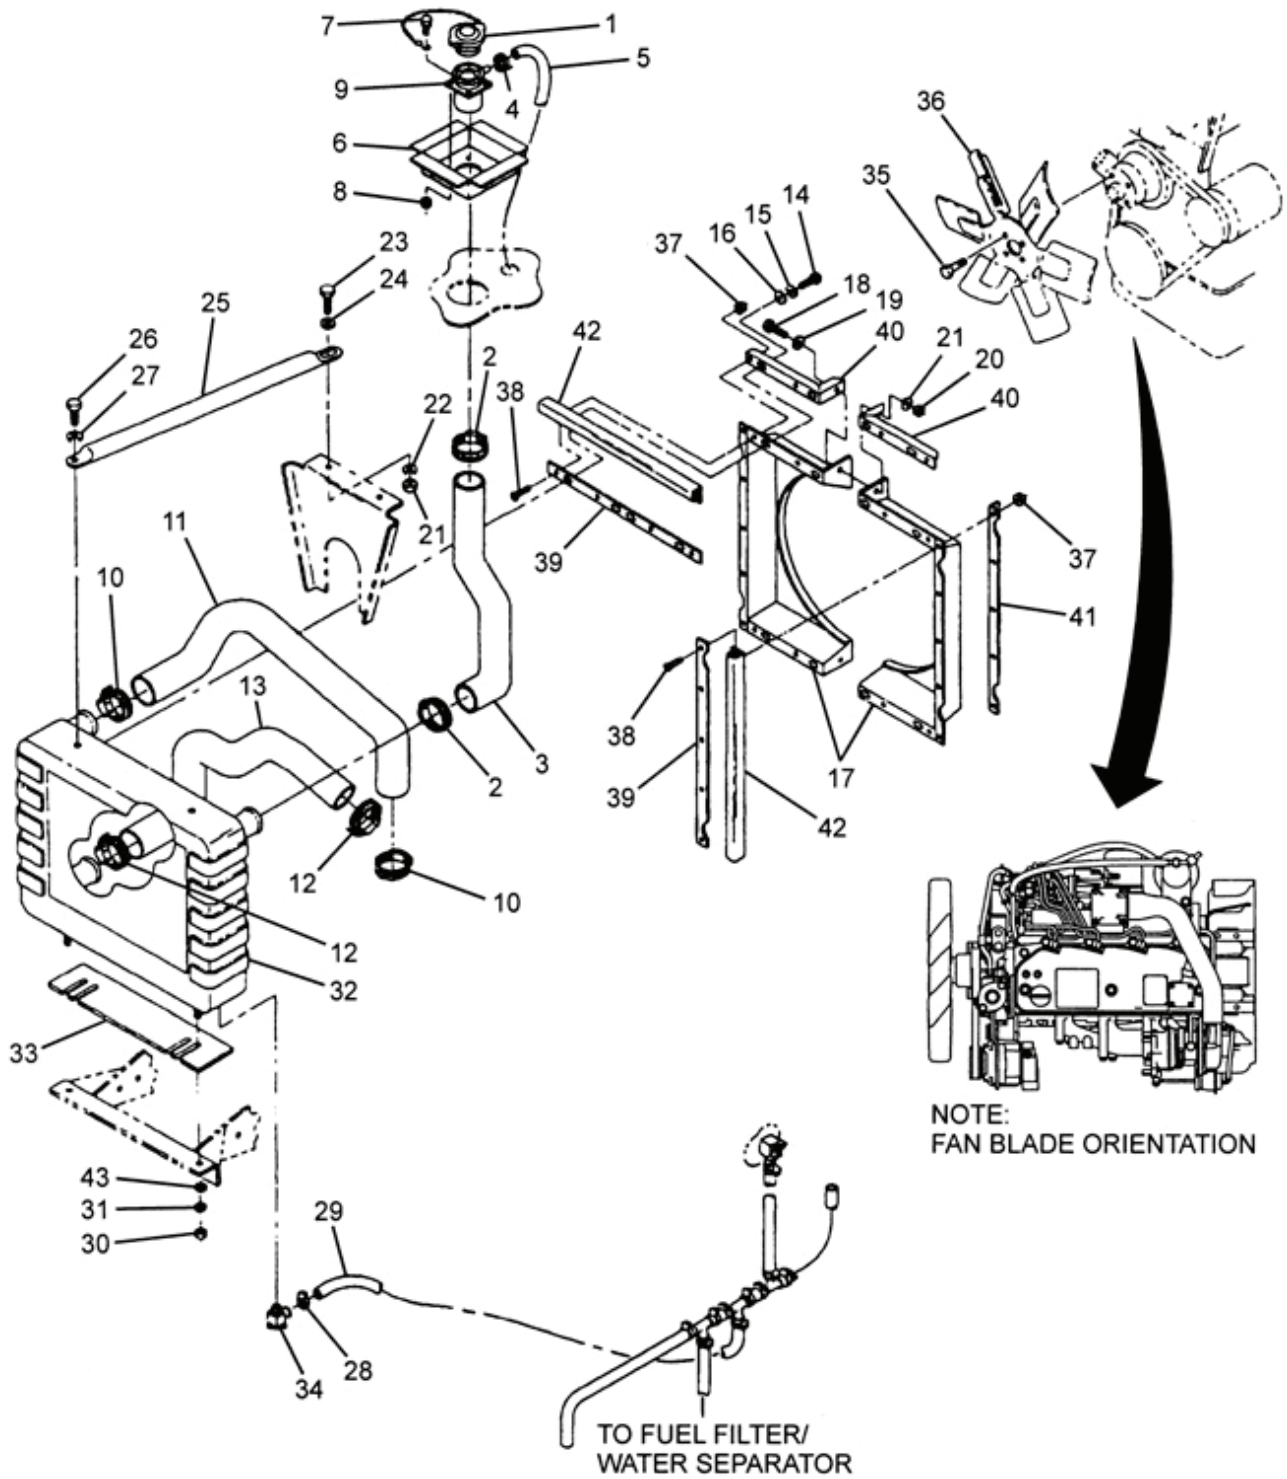
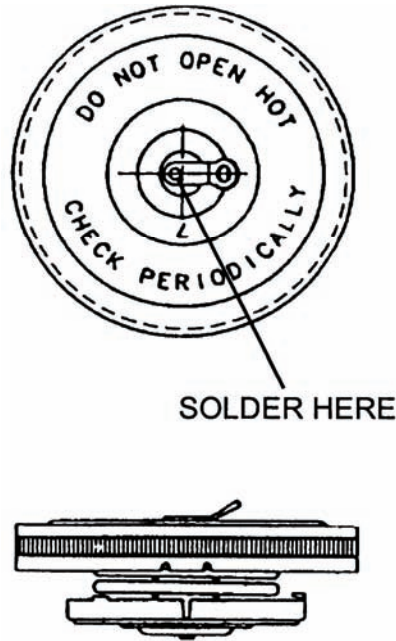

Figure 2-23. Coolant System – MEP-804A/MEP-814A.
Figure 2-24. Radiator Cap.
- b. Slowly remove radiator cap (1, Figure 2-23).
- g. Install radiator cap (1). Close engine access doors.
- d. Slowly remove radiator cap (1, Figure 2-23).
- e. Open radiator drain valve (34) and drain coolant/antifreeze into suitable container to a level below radiator filler hose (3) connection at radiator.
- f. Loosen clamps (2) and remove radiator filler hose (3) and clamps (2).
- g. Loosen clamp (4) and disconnect overflow hose (5) from radiator filler neck (9).
- h. Remove radiator fill panel (6) and filler neck (9) from generator set.
- i. Remove bolts (7), nuts (8), cap (1), and radiator filler neck (9) from radiator fill panel (6).
- c. Inspect radiator filler hose (3, Figure 2-23) for cracks, holes, and dry rot.
- d. Inspect filler panel (6), filler neck (9), and cap (1) for cracks, excessive corrosion, and other damage.
- a. Install radiator filler neck (9, Figure 2-23) and cap (1) on radiator fill panel (6) with bolts (7) and nuts (8).
- b. Position radiator fill panel (6) and filler neck (9) in generator set and attach overflow hose (5) with clamp (4).
- c. Install radiator filler hose (3) on filler neck (9) and radiator (32) with clamps (2).
- e. Close radiator drain valve (34) and add coolant/antifreeze to proper level (paragraph 2-1.2.2).
- f. Solder tab (Figure 2-24) and hook chain to tab if replacing radiator cap (1).
- g. Install radiator cap (1, Figure 2-23).
- c. Slowly remove radiator cap (1, Figure 2-23).
- e. Open radiator drain valve (34) and drain coolant/antifreeze into suitable container.
- f. Loosen clamps (10) and remove upper coolant hose (11) and clamps (10).
- c. Inspect upper coolant hose (11, Figure 2-23) for cracks, holes, and dry rot.
- a. Install upper coolant hose (11, Figure 2-23) on thermostat housing opening and radiator (32) with clamps (10).
- b. Close radiator drain valve (34) and add coolant/antifreeze to proper level (paragraph 2-1.2.2).
- d. Install radiator cap (1).